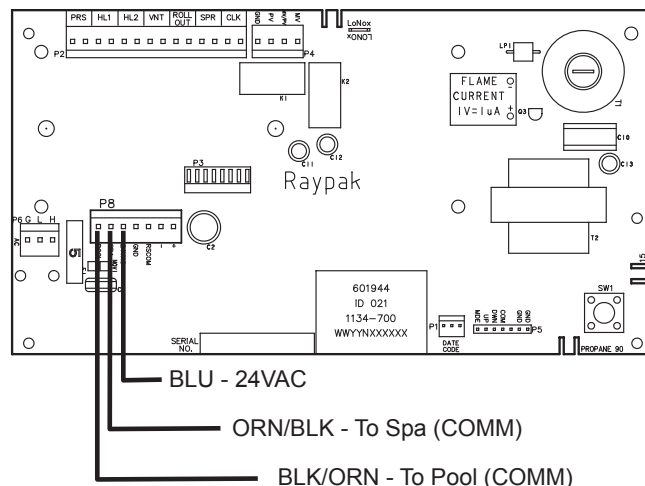

Figure 49. 3-Wire Remote Harness Installation on the P8 Connector of the Board
5. Install the "Remote Interface Harness" to the P8 connector and turn power ON to the heater. See **Figure 49**.